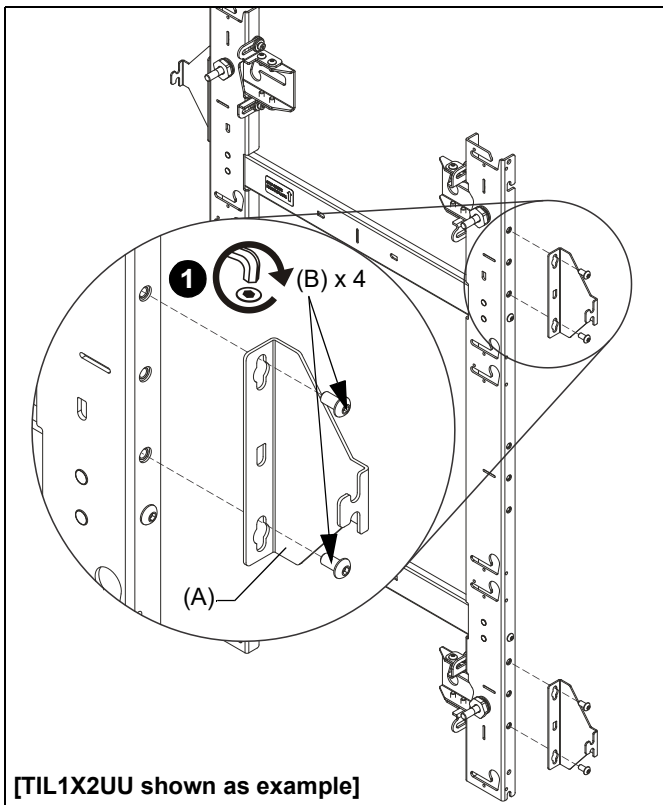

Figure 4
1. Attach two horizontal connectors (A) to each wall mount using two 1/4-20 x 1/2" button head cap screws (B) per horizontal connector. (See Figure 4)